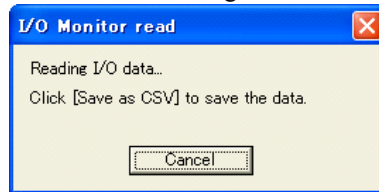

Fig. 6.1.3 Data reading
- Read data (PC ← PLC):** Current data of all I/Os in I/O monitor sheet is retrieved from CPU only once. (Only displayed data is retrieved with the monitoring normally.) While data is being read, Fig 6.1.3 is displayed.